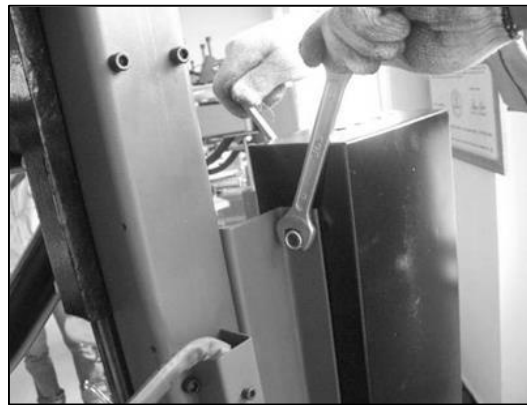

Fig. 35
6.1.7 According to the (Fig. 35), fit the bracket on the body that secures the tool box on the fixed bracket and then use the lock nut to tighten.